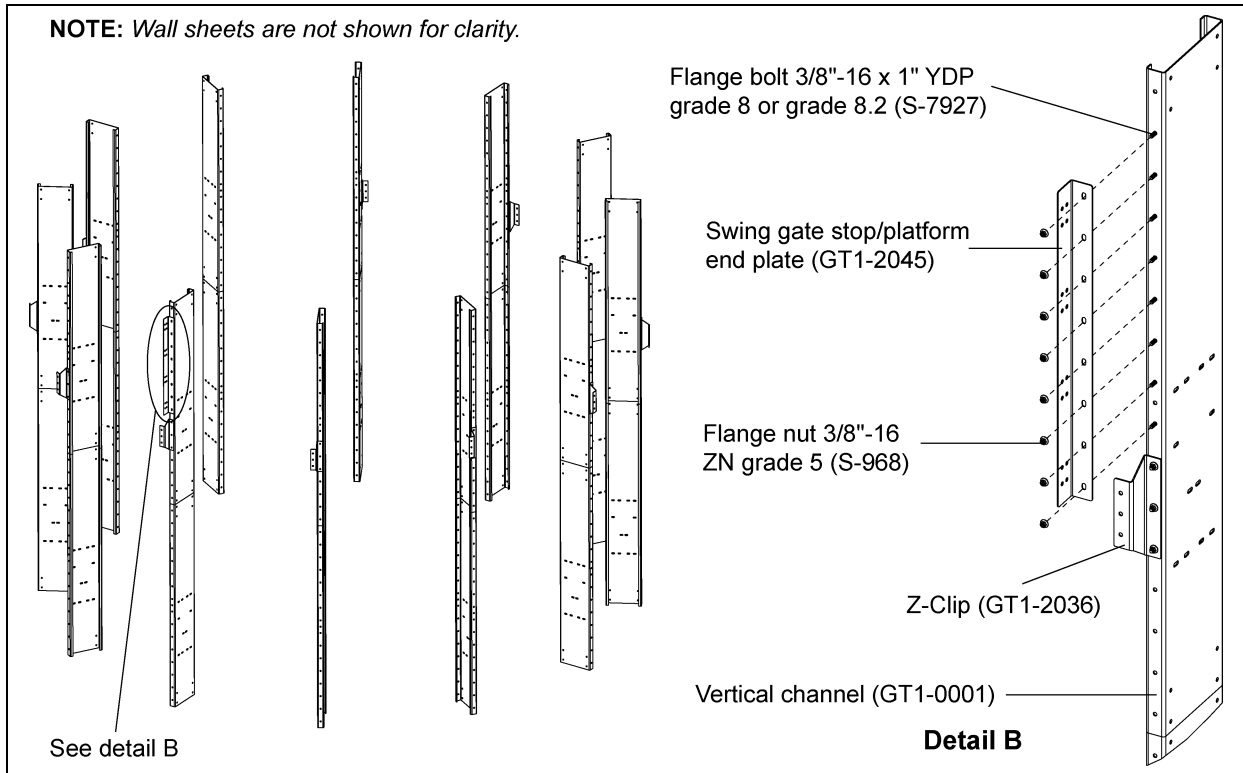
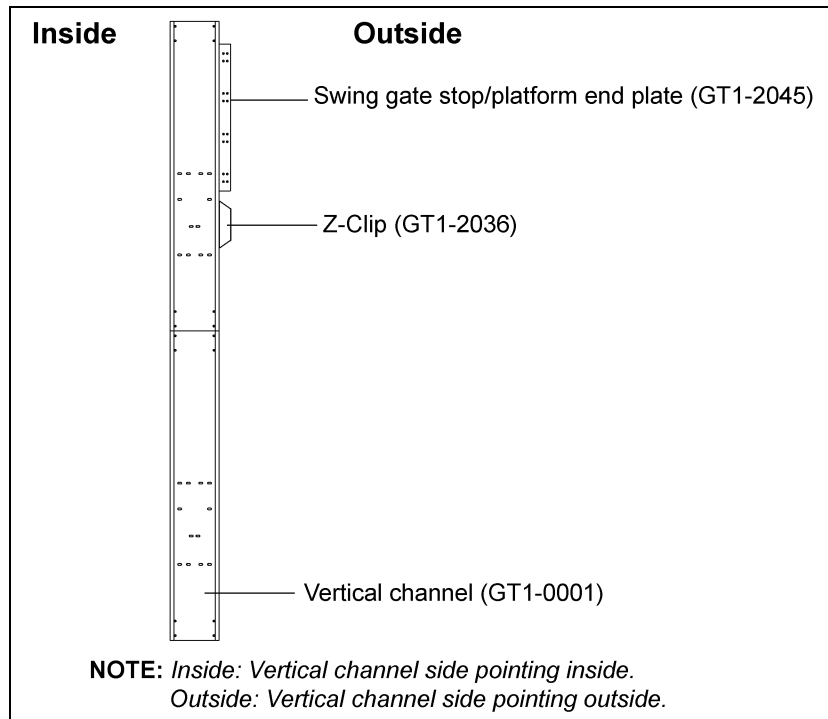

Figure 4C
Figure 4D
1. Identify the ladder opening vertical channel and install the swing gate stop (GT1-2045) to the vertical channel (GT1-0001) as wall sheets are installed using 3/8"-16 x 1" YDP grade 8 or grade 8.2 bolts (S-7927) and 3/8"-16 ZN grade 5 nuts (S-968). (See Figure 4C and Figure 4D.)